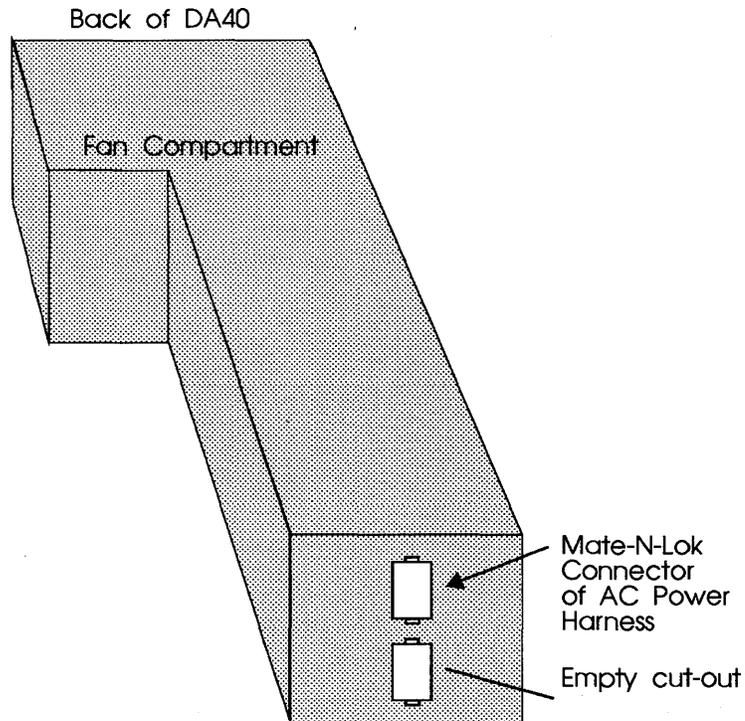

Figure 6-8: DA40 Fan Compartment with Mate-N-Lok
- a** Disconnect the Mate-N-Lok connector of the AC power harness from the DA40 fan compartment. See Figure 6-8.